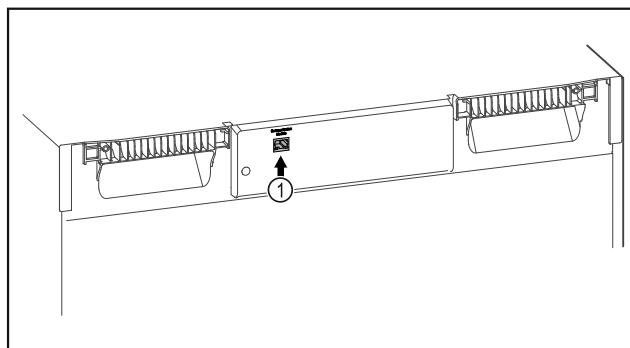

Fig. 118
- ❑ SmartModule Fig. 118 (1) is in use.